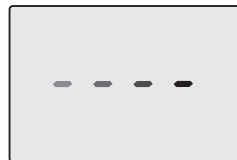
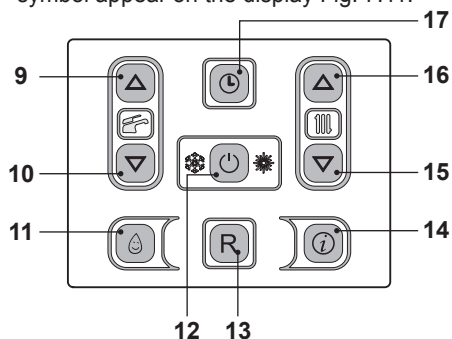

Fig. 7.10
Fig. 7.11
- Electrically power the boiler by switching on the double pole isolation switch. The LCD will display, the - - - - symbol (Fig. 7.10).
- Press the 12 key for 2 seconds until  symbol appear on the display Fig. 7.11.
- Switch off the boiler by pressing the 12 (Fig. 7.11) key for 2 seconds until the - - - - symbol appears on the LCD display (Fig. 7.10).
Press the reset key on the boiler control panel 13 (Fig. 7.11) to reset its functioning.